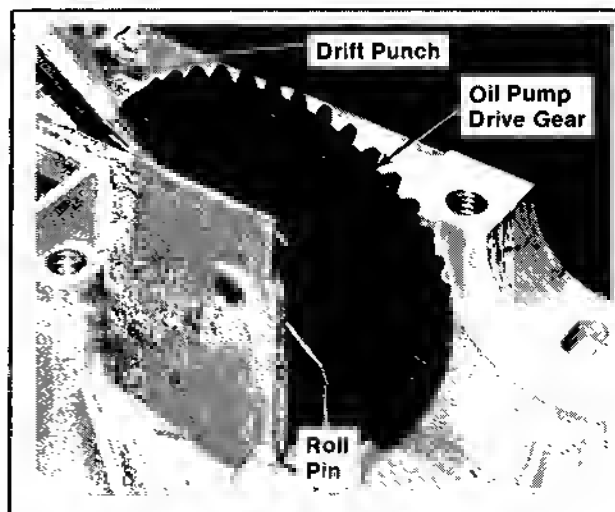

Figure 9-41. Removing Oil Pump Drive Gear.
2. Using a small-diameter drift punch, drive the roll pin out of the pump drive gear and shaft. Remove shaft, drive gear, and shim spacer. Refer to Figure 9-41.